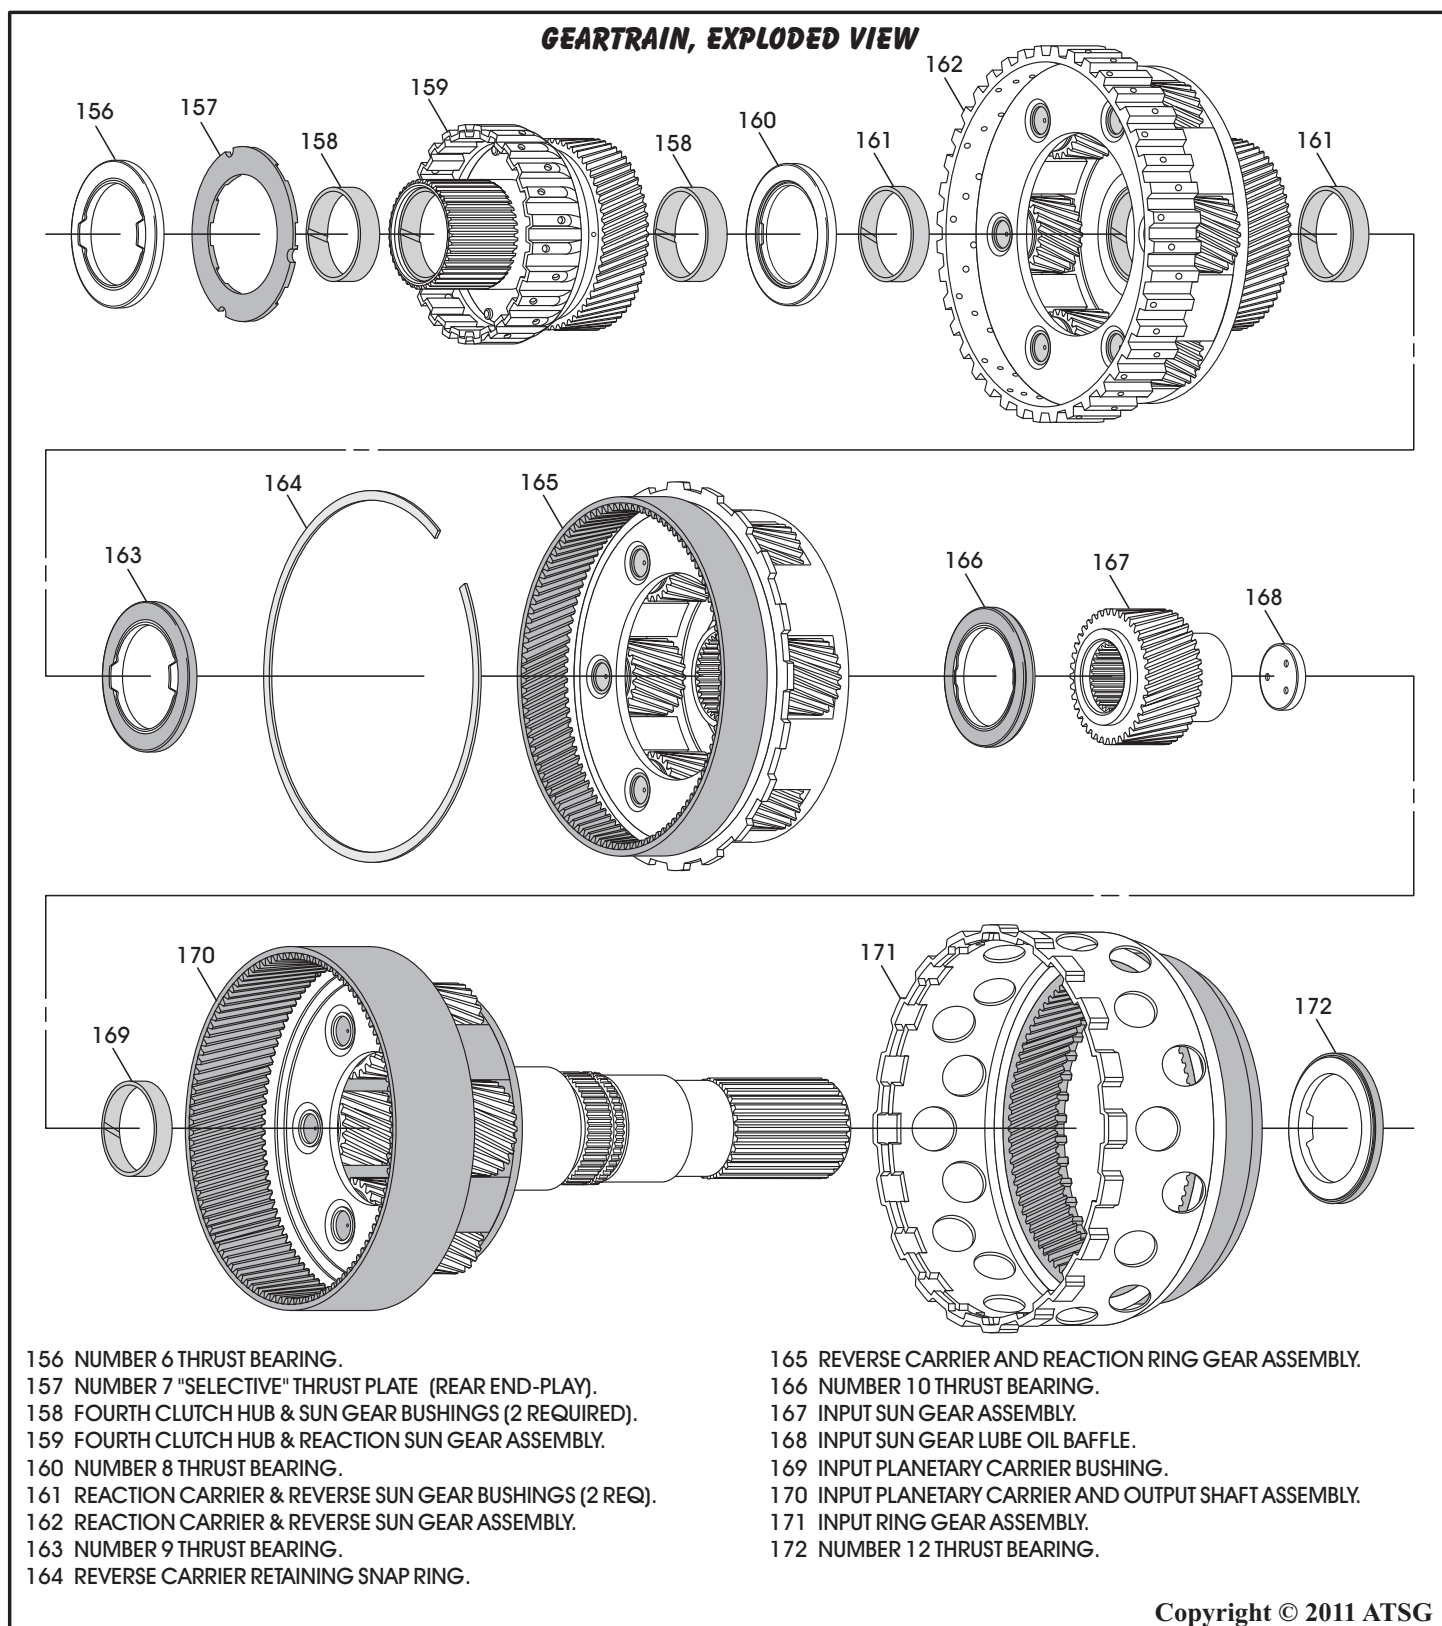

Figure 85
1. To disassemble rear geartrain you must remove the snap ring (164) shown in Figure 85.